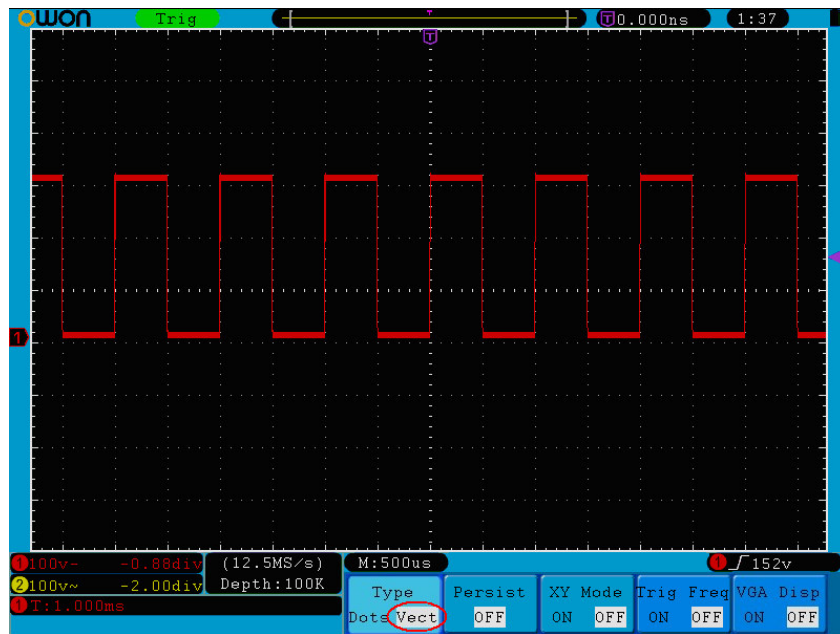
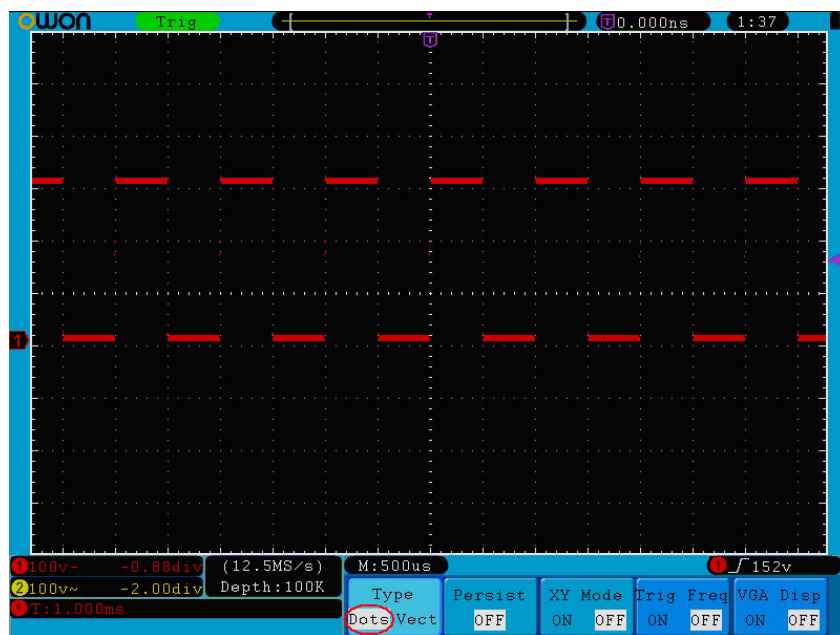

Figure 5-32 Display in the Vector Form
Figure 5-33 Display in Dots form
**Display Type:** With the **F1** menu selection button pushed down, you can shift between **Vect** and **Dots** types. The differences between the two display types can be observed through the comparison between *Figure 5-32* and *Figure 5-33*.